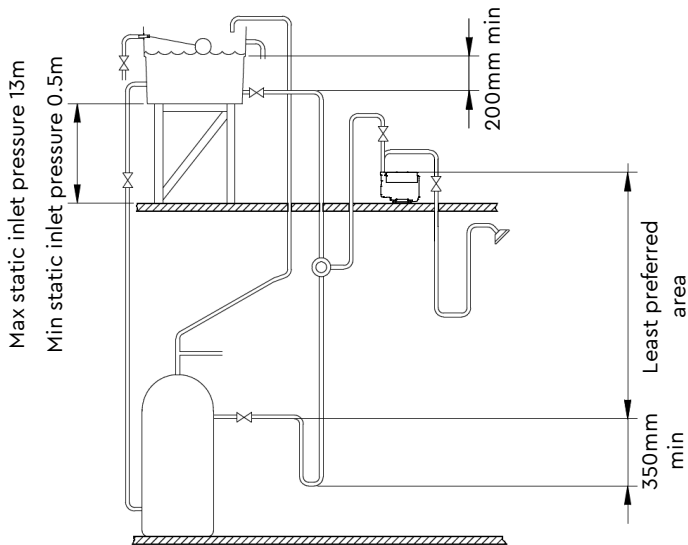
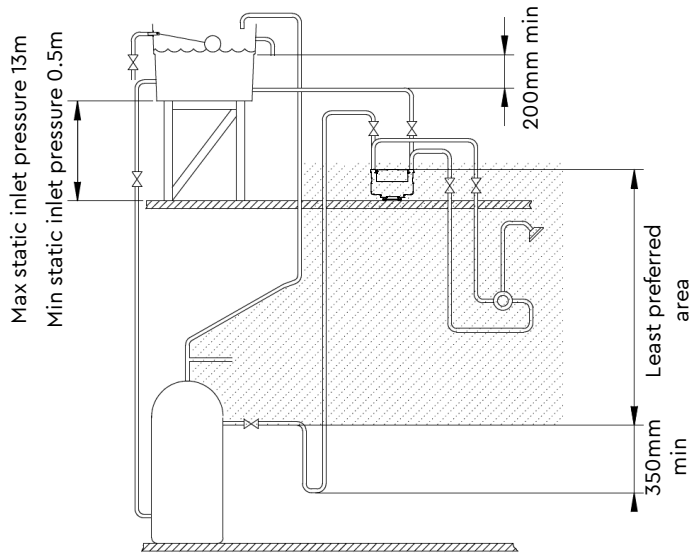

Figure 4
Figure 5
- **Static inlet pressure:** Before deciding where to locate the unit, check to ensure the static inlet head between pump and the bottom of the cold water tank (Figure 4 and Figure 5), is at least 0.5 metres and does not exceed the max inlet head of 10 metres or 13 metres depending on the model (See Sections 10 and 11 – Technical Specifications).
- The use of a Side Entry cylinder flange, which should have the addition of an inverted loop ("U" bend) of 350 mm minimum drop before rising to the pump, located as close as possible to the cylinder wall. This will ensure the pump receives an air free supply and the cylinder vents any air up the vent pipe and not the pump feed (Figure 4 Single Pump and Figure 5 Twin Pump).